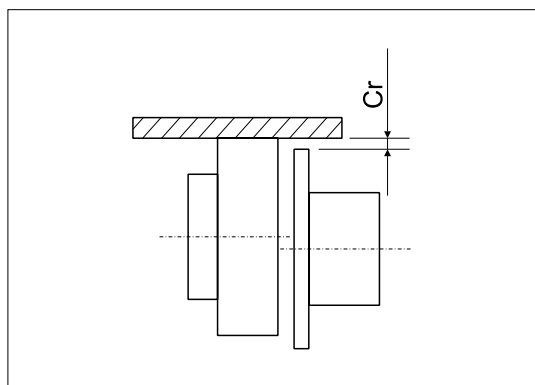

FIG. 27 (Alignment and centering of the coupling joint)
5.6.5.1- Alignment and centering of the coupling joint (FIG. 27, FIG. 28 and TAB. 15)
RADIAL CENTERING (FIG. 27)